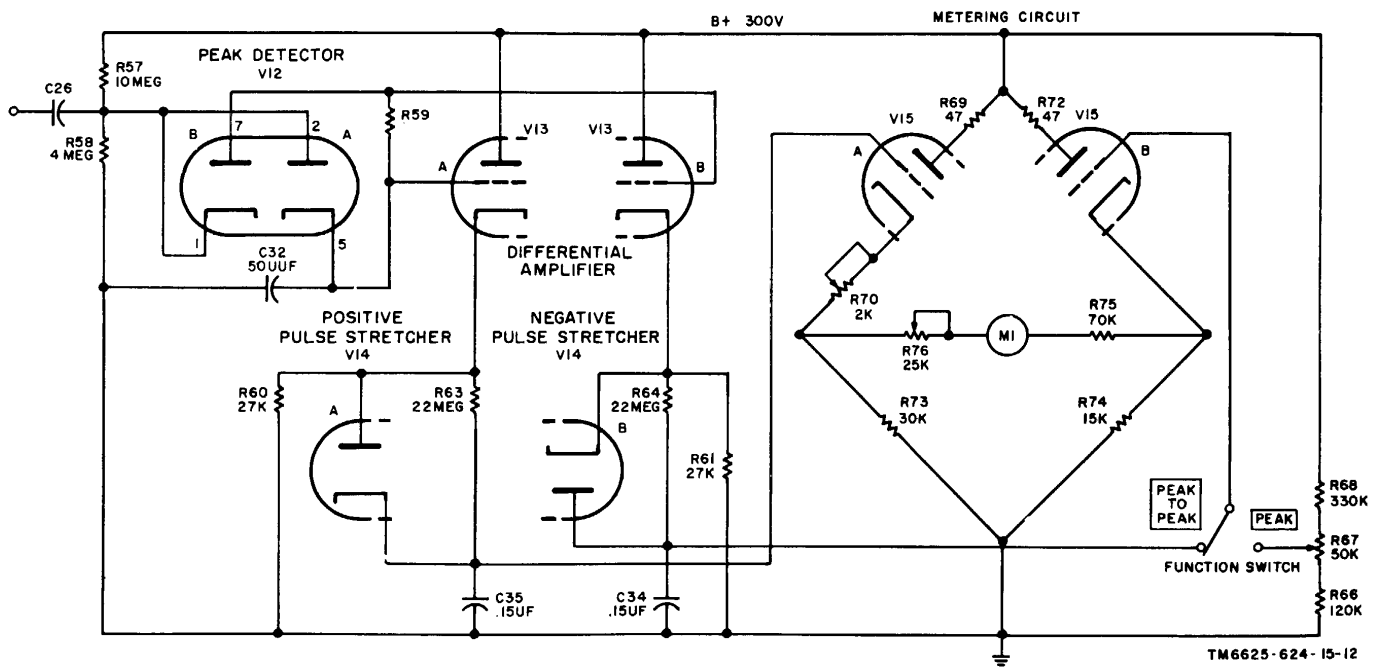

Figure 5-5. Peak detector and metering circuit. schematic diagram
f. Peak-to-Peak Detector (fig. 5-5).
- (1) Dual diode tube V12 and V12B is used as a peak-to-peak detector. One-half of the diode rectifies a positive-going signal alternation and the other half rectifies a negative-going alternation.
- (2) Charging capacitor C32 is charged initially by a voltage from the junction of resistors R57 and R58 through diode V12 plate to cathode. Voltage divider R57 and R48 provides a dc bias to the detector.
- (3) The bias voltage on capacitor C32 will be applied to both grids of dual triode V13. This tube serves as a differential amplifier.
- (4) A signal coupled through capacitor C26 to resistor R58 is rectified by the V12 circuits. On the positive swing of the signal, capacitor C32 will charge very rapidly to the peak value of the signal. The time constant is 0.01 microsecond. The discharge path must be through resistor R59 which gives a time constant of 2.2 milliseconds.
- (5) The high charge-to-discharge ratio of R59 and C32 insures true peak detection of a signal. (Resistor R59 and capacitor C32 act as an integrator circuit in the input circuit of differential amplifier V13.)
- (6) The circuit design assures true peak detection for a wide variety of signal wave shapes and signal pulse widths.
g. Pulse Stretcher (fig. 5-5 and 9-3).
- (1) Differential amplifier stages V13A and V13B will be in an identical state of conduction in the absence of an input signal.
- (2) A resistor-capacitor integrator circuit is parallel connected across the cathode load resistor (R60 and R61) of V13A and V13B.
- (3) Capacitor C35 will charge to a peak positive signal swing and capacitor C74 will charge to a peak negative swing. Diode V14A and V14B serves as a peak rectifier. The time constant of R63 and C35 and R64 and C34 is 3.3 seconds long.
- (4) Once a signal has been detected by the peak-to-peak detector, the pulse stretcher stores the positive and negative peak levels as a dc potential referenced to ground.
h. Measuring Stage (fig. 5-5).